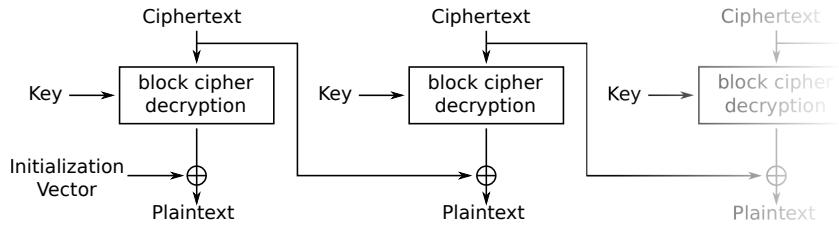

Figure 14: Cipher Block Chaining (CBC) mode decryption
Let us recall another CBC fact: even if you only know the key but not the initialization vector (IV), you can still decrypt `combined.png` almost fully. Only the first block will be wrongly decrypted, which is not that hard to reconstruct; even if left corrupted, it won't prevent `ElectronicColoringBook.py` from revealing both images. Look back at Figure 14 to understand why.